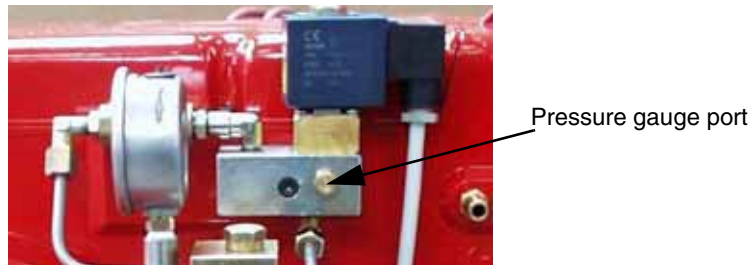
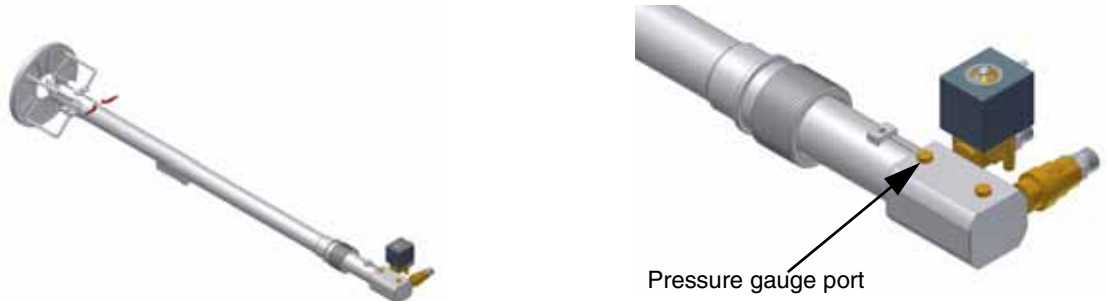

Fig. 19 - Light oil manifold (PG60)
Fig. 20 - Combustion head with light oil gun (PG70 - PG81)
- the nozzle supply pressure is already factory-set and must not be changed. Only if necessary, adjust the supply pressure as follows (see related paragraph); insert a pressure gauge into the port showed on Fig. 19-Fig. 20 and act on on the pump adjusting screw **VR** (see Fig. 18) as to get the nozzle pressure at 20bar (Bergonzo nozzles - see diagram on page 15).